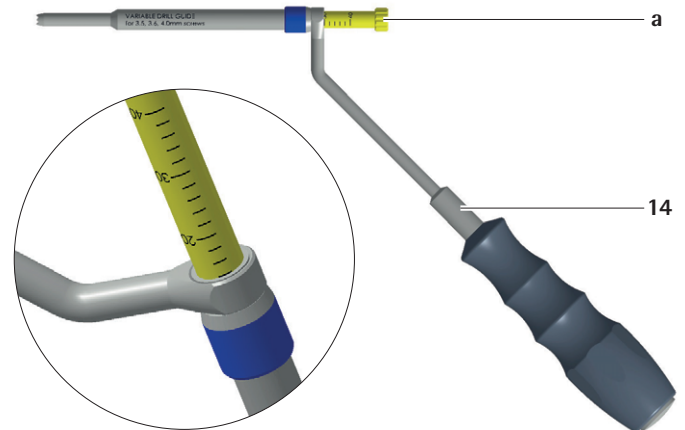

Fig. 3
- ▶ Set the desired drilling depth on the variable drill guide 14 (SZ054R) by rotating the inner sleeve a counter-clockwise, see Fig. 3.